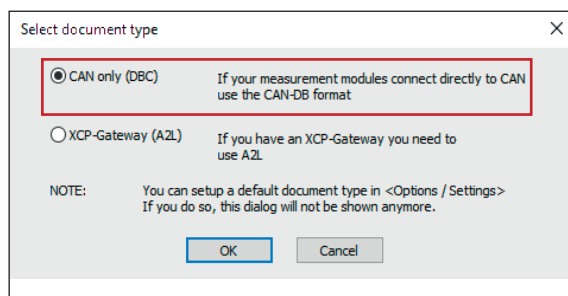

Fig. 5-8: **Select document type** dialog, **CAN only (DBC)** selected
- ⇒ The **Select document type** dialog (Fig. 5-8) opens.
⇒ The **Select document type** dialog (Fig. 5-8) opens.